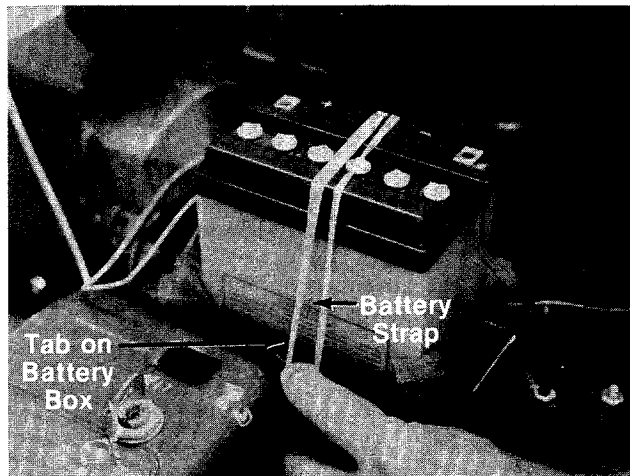

FIGURE 14.
10. Secure the battery to the battery box by stretching the battery strap provided across the battery. Loop each end around the tab on the sides of the battery box. See figure 14.